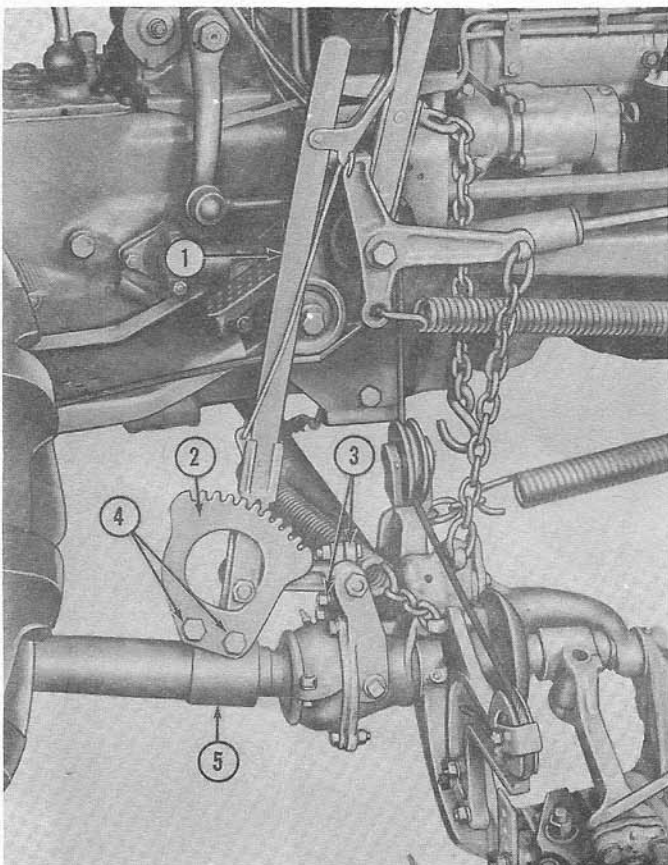

Figure 30
1. Secure the tilt lever operating rod to the ball joint with cap screws (3), Figure 30.
2. Connect the tilt lever (1) and ratchet (2) to the